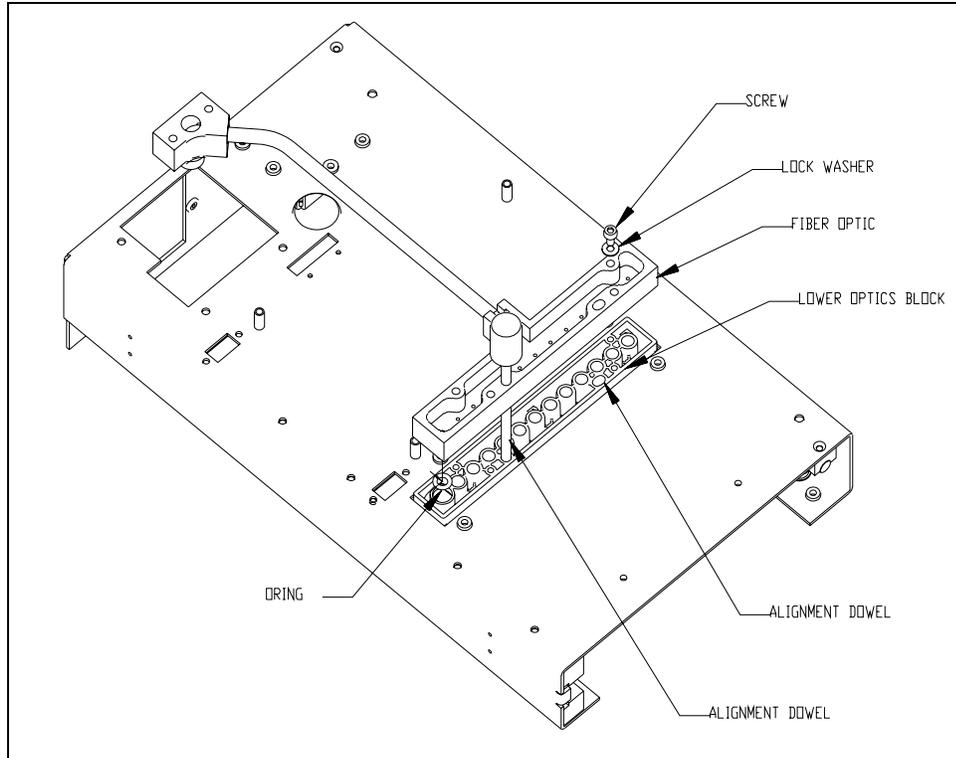

Figure 11-43 Alignment of the Lens Assembly
- 8 Insert 4mm alignment pins (AMFIX004) into the alignment holes. Fasten the block with four M3 x 20mm socket head caps screws and M3 lock washers (Figure 11-43).